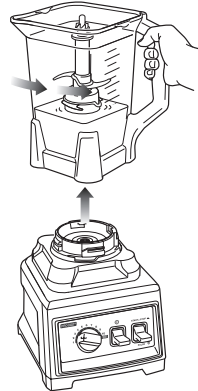

Fig. 8
- 14 For thicker consistencies, remove the lid and Top Stacked Blade Assembly carefully (by its shaft), then empty contents from the container. To remove the lid, press the release button on the lid and pull the lid handle up to a 90° angle and lift the lid off the blender pitcher. (Fig. 8)